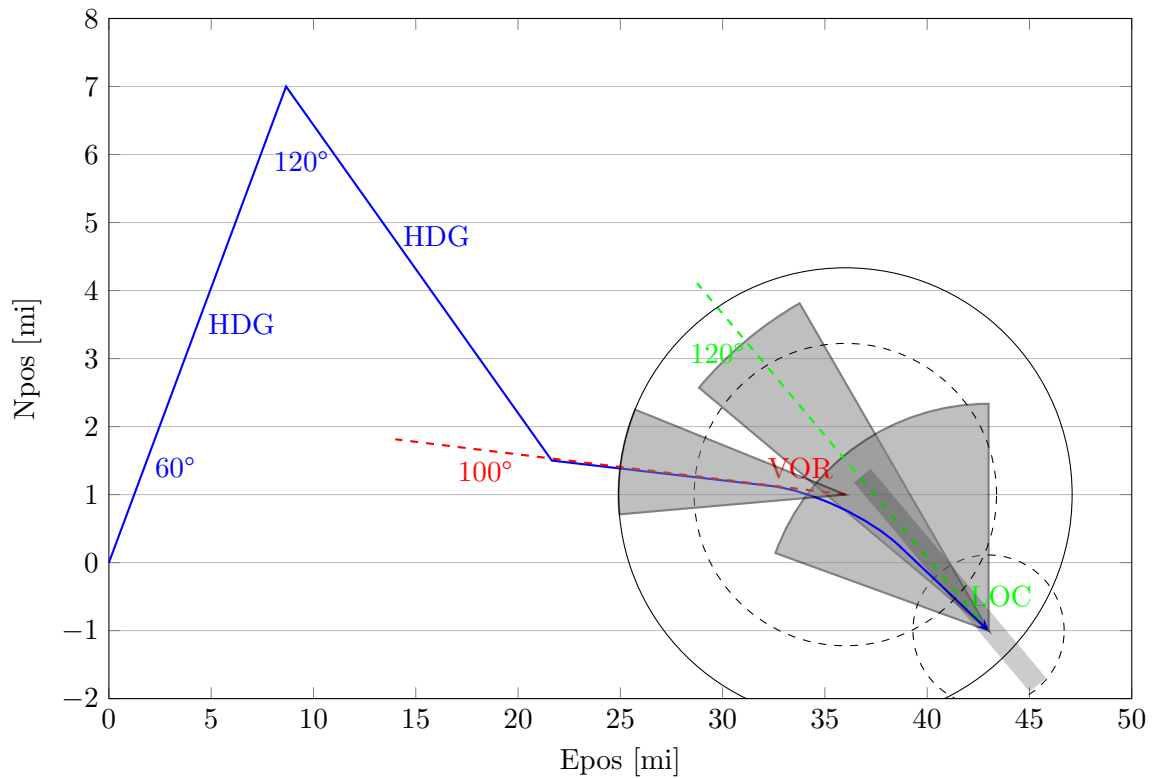

Figure 1: Lateral Autopilot
- Design a heading select controller. Make a 90 deg heading change and limit the roll angle to 70 deg as shown in figure 1. Maintain airspeed at 400 ft/s. **Record your results and plot heading, roll angle, rudder, and aileron deflection versus time.**
- Include VOR/LOC hold into the lateral autopilot of the aircraft as shown in figure 1. Start with an initial heading of 60 deg at 10000 ft and 400 $\frac{\text{ft}}{\text{s}}$. Acquire a VOR transmitter beam $\gamma_{\text{VOR}} = 100$ deg located at $[36 \ 1]$. Maintain constant speed and pitch angle. Now acquire a beam from the LOC transmitter with $\gamma_{\text{LOC}} = 150$ deg located at $[42 \ -2]$ with a signal radius of 1.3 mi. **Include plots of heading, roll angle, roll-rate, yaw angle, yaw rate, aileron and rudder deflections, and heading-path deviations for both transmitters in your plots!**